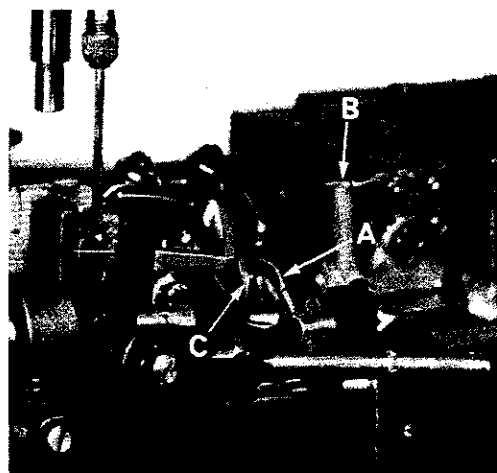

Fig. 13
Looper thread cast-off wire (A, Fig. 13) located on the take-up shield (B) controls the amount of slack thread in the system and can be moved to any Position. It should be set laterally so that it is midway between the two discs of take-up (C) and the tip parallel with the discs.